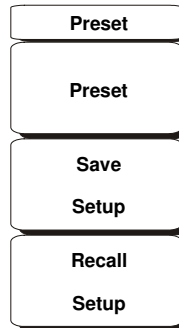

Figure 3-10. Preset Menu Soft Keys
To access the functions under the Preset menu, press the **Shift** key, then the **Preset** (1) key. The Preset menu soft keys are shown in Figure 3-10: